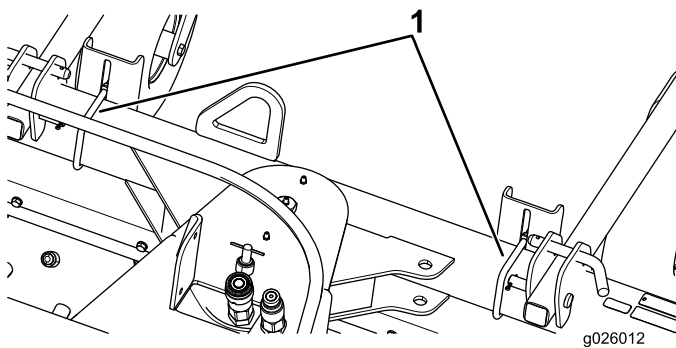

Figure 7
- To widen the barrier gap, loosen the 2 U-bolts (3/8 inch) that hold the barrier mount (Figure 7).
- To narrow the barrier gap, tighten the 2 U-bolts (3/8 inch) that hold the barrier mount (Figure 7).